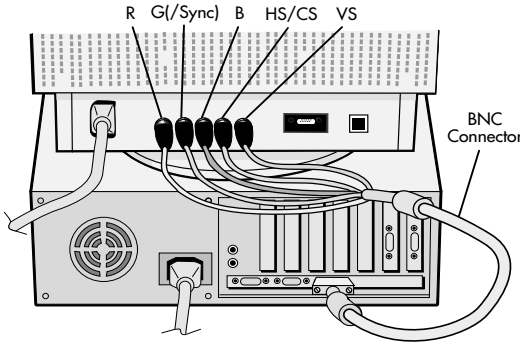

Figure C.1
3. Connect the BNC cable to the appropriate connectors on the back of the monitor. Connect the red BNC cable to the BNC connector on the monitor labeled R, the green BNC cable to the BNC connector labeled G (/Sync), the blue BNC cable to the BNC connector labeled B. If you have a fourth BNC connector (Composite Sync), connect it to the BNC connector on the monitor labeled HS/CS. If you have a fifth BNC connector (Vertical Sync), connect it to the BNC connector on the monitor labeled VS (**Figure C.1**).